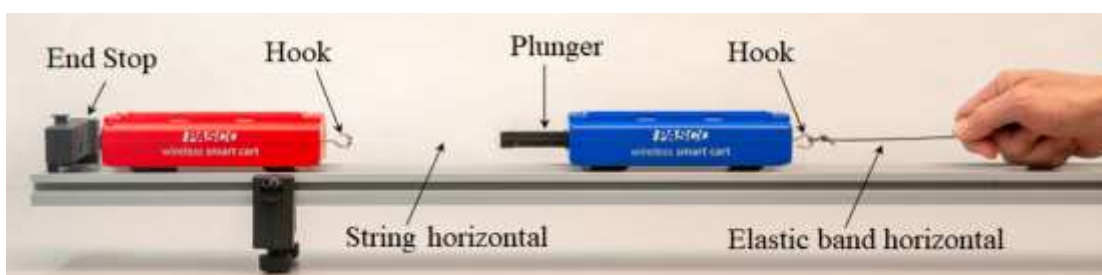

Figure 6: Setup Just Before Acceleration
3. To set up the carts as shown in Figure 6:
1. Back the carts up so the Red cart is at one of the end stops, as in Figure 6. Without recording any data, practice pulling on the carts with the elastic band. Just before accelerating the carts, hold the elastic band with a very small amount of tension, so that there is also a very small tension in the string connecting the carts (see Figure 6). Then pull harder, to accelerate the carts, keeping tension in the string as far as possible along the track. Make sure you pull only horizontally.